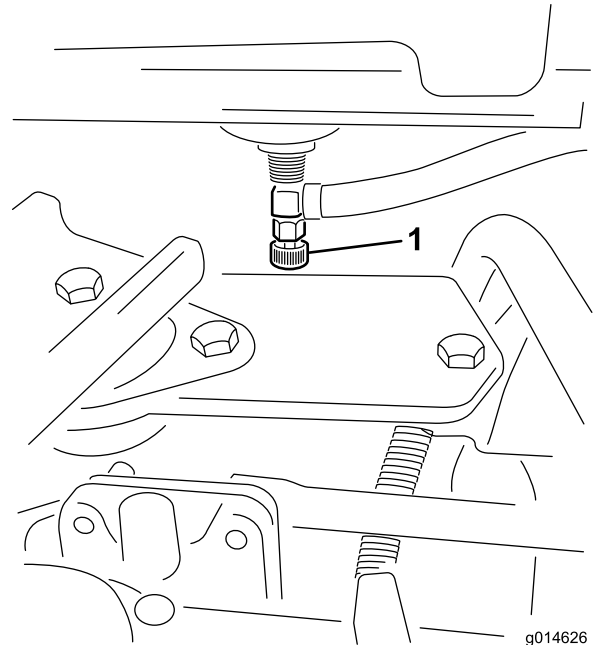

Figure 45
1. Close the fuel shut off valve (Figure 45) below the fuel tank.